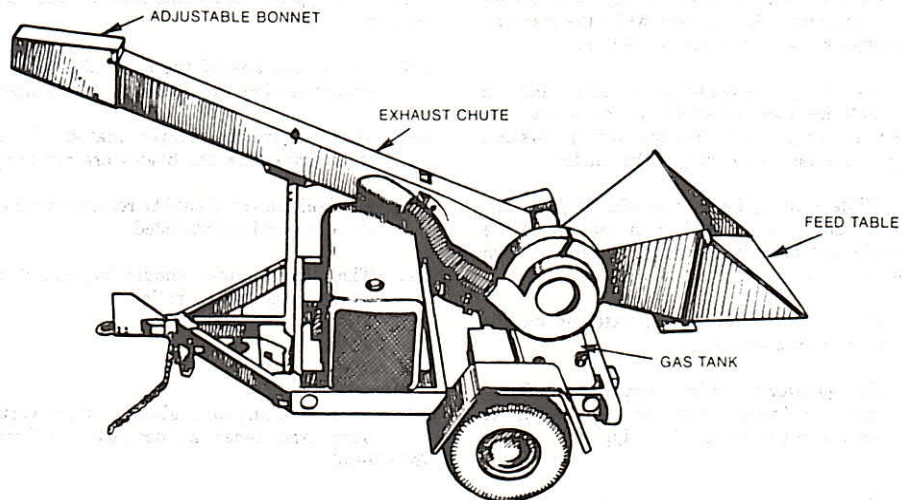

Fig. 2—Brush Chipper
6.03 These units are designed to chip brush and limbs up to 2 inches diameter depending on the type of wood. Green wood chips quite easily, but dry wood is difficult to chip and dulls the blade. See Fig. 2.